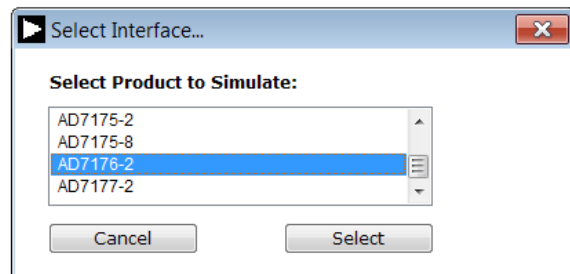

Figure 18. Evaluation Board Selection Simulation
4. The **AD717x Eval+** can also be used without connecting hardware. Click the **Simulation** button and the options shown in Figure 18 appear. The **Simulation** mode uses a software model and allows the **AD7172-2**, **AD7172-4**, **AD7173-8**, **AD7175-2**, **AD7175-8**, **AD7176-2**, or **AD7177-2** to be evaluated.